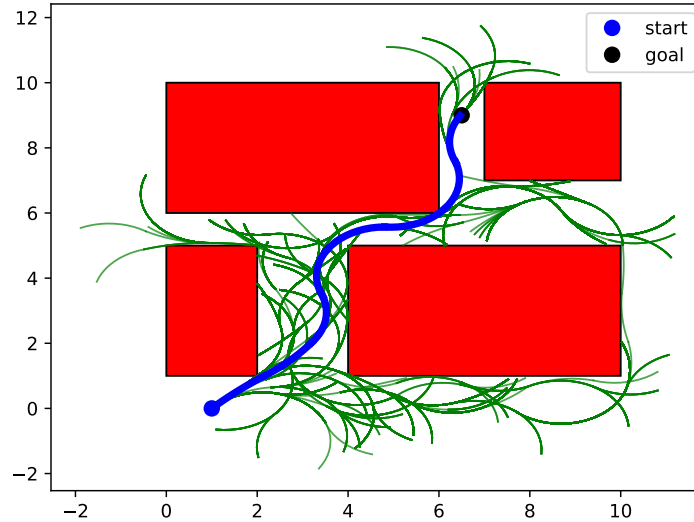

Figure 11: RRT with kinematic car model. Green: tree, blue: solution path, red: obstacles.
- The planner was run in the provided example world. Figure 11 shows the resulting tree and solution path.